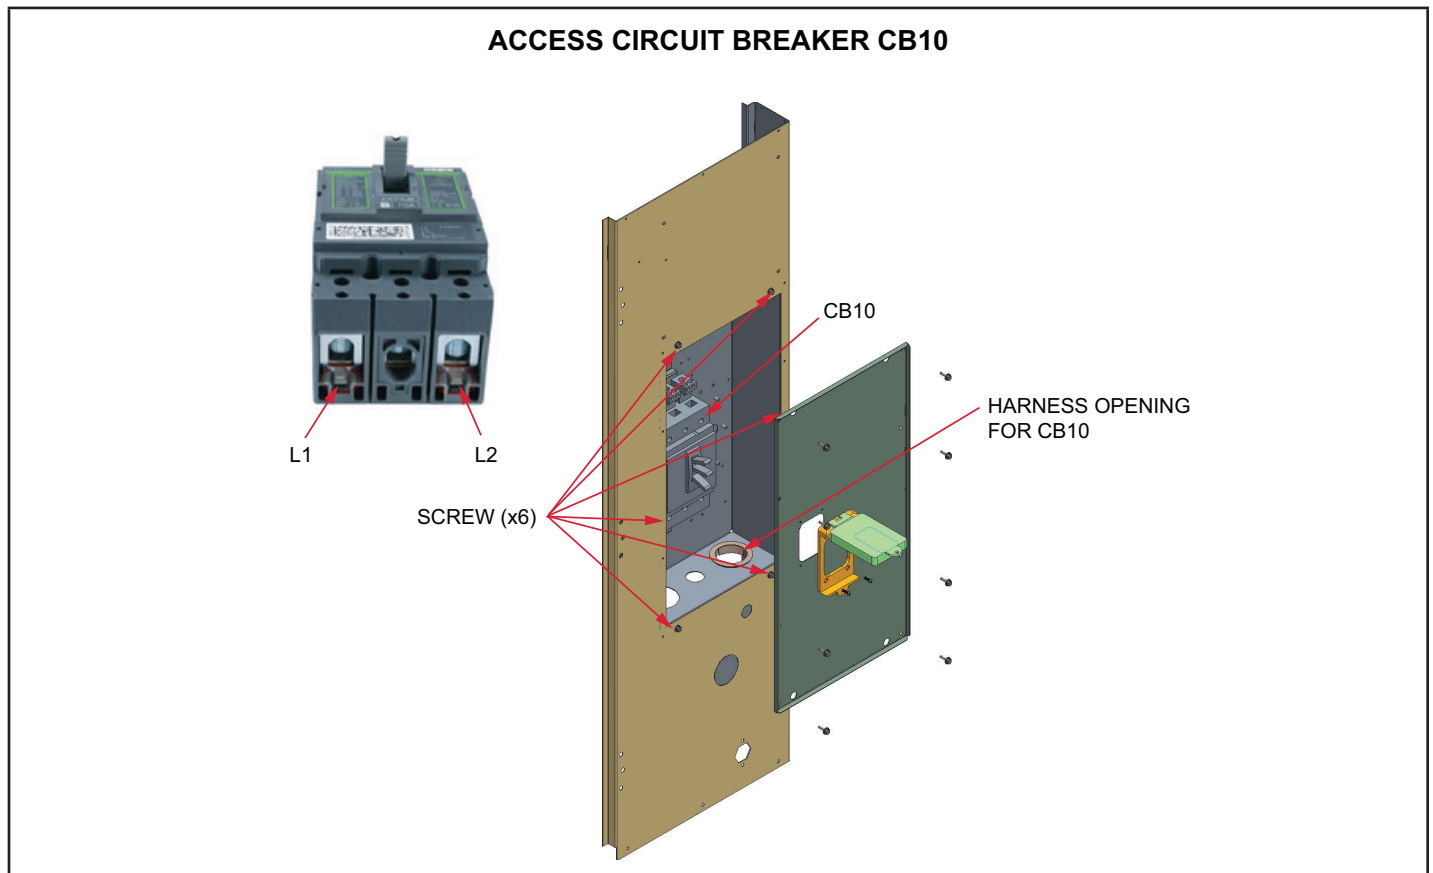

FIGURE 12
- 1 - Unscrew the 6 screws from the disconnect box cover panel to access the circuit breaker CB10. See FIGURE 12.